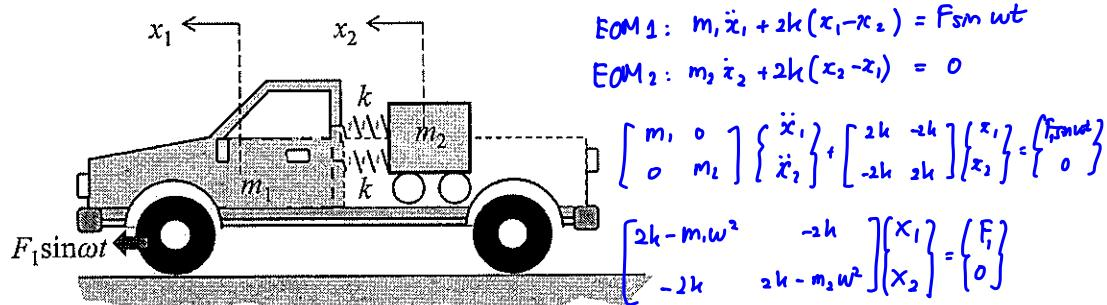

Figure 5 Grammer's rule: $X_1 = \frac{(2k - m_1 \omega^2) F_1}{(2k - m_1 \omega^2)(2k - m_2 \omega^2) - 4k^2}$
- (b) Figure 5 shows a pick-up truck of a total mass m_1 transporting a small cart of a mass m_2 . The small cart is hitched through two springs of axial stiffness k each to the truck body. Absolute displacement of the truck is x_1 while that of the cart is x_2 .